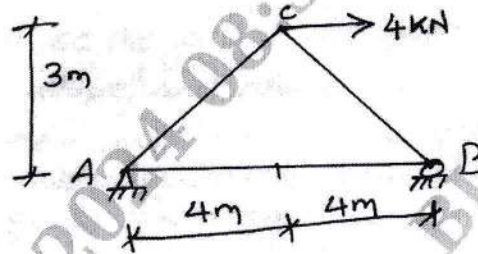

Fig.Q4
- 4 For the truss shown in Fig.Q4. The cross sectional area of each member is 400 mm^2 . Take $E = 200 \text{ GPa}$. Determine the vertical deflection at joint C if 4 kN force is applied to the truss at 'C'.